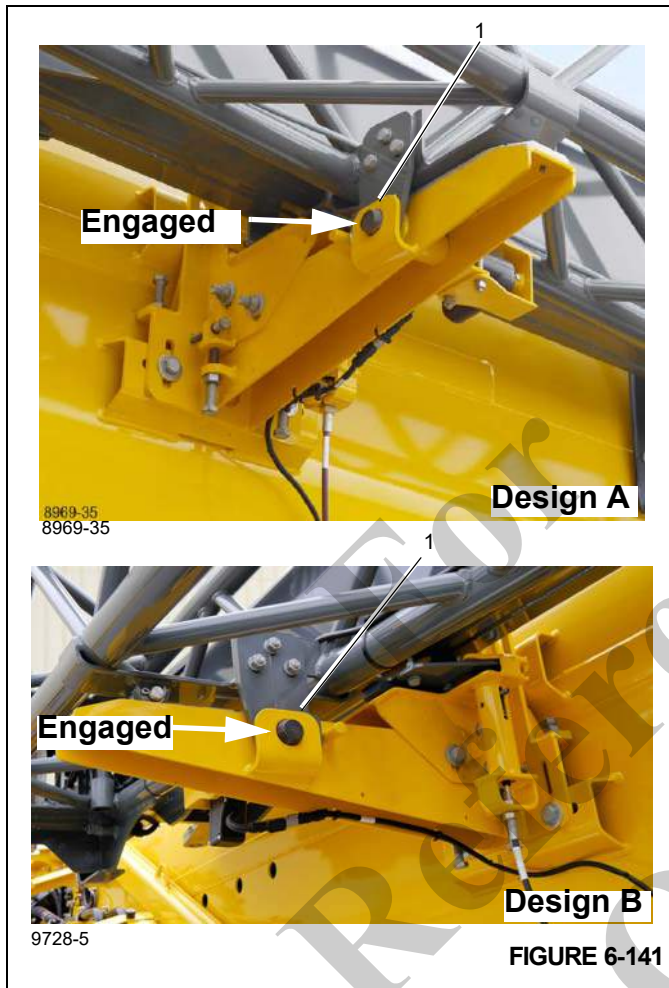

FIGURE 6-141
- 14. Verify pin #1 (1), (Figure 6-141) is engaged (**Design A** or **Design B**).